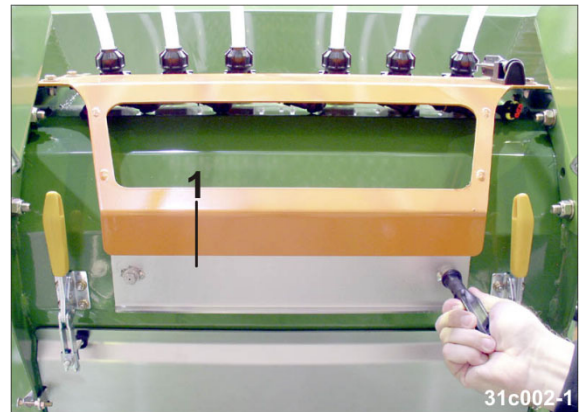

Fig. 260
3. The collection trough (Fig. 260/1) is generally emptied after finishing the field work (see section "Emptying the seed hopper and/or seed singling unit", Seite 180).